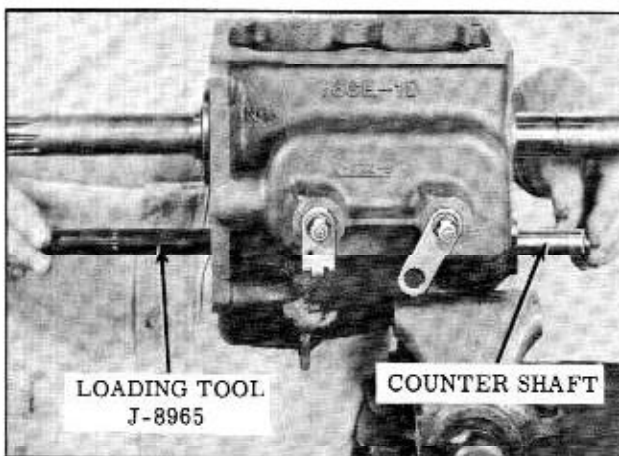

Fig. 10-8 Removing Countershaft
7. With Tool J-8965 drive countershaft out the REAR of the transmission case. Countershaft must be driven out from front to rear as the rear of shaft is a larger diameter. The J-8965 Tool must always be held tightly against the countershaft while removing to prevent any thrust washers from falling out of position. Carefully drive tool into case only until counter gear will drop to bottom of case with tool in position. (Fig. 10-8)
gear shaft (Fig. 10-8) Use an awl to assist in aligning shaft.